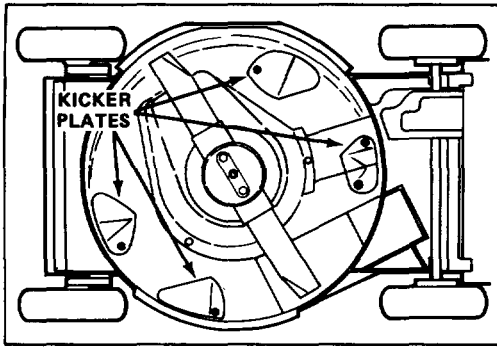

Figure 32
Keep underside of mower housing clean. Be especially careful to keep kickers on underside of mower housing free of debris (Fig. 32).
3. Tip mower on its right side (Fig. 32). Avoid rotating blade because starting problems may result.